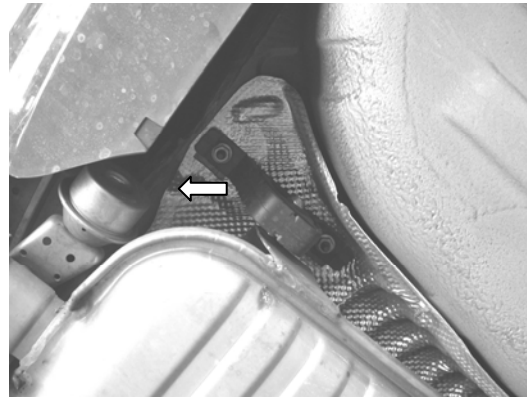

Figure 4
4. On 330CI models, disconnect vacuum hose from valve assembly shown in figure 4. Plug hose using a vacuum plug (not included with system) or something similar.